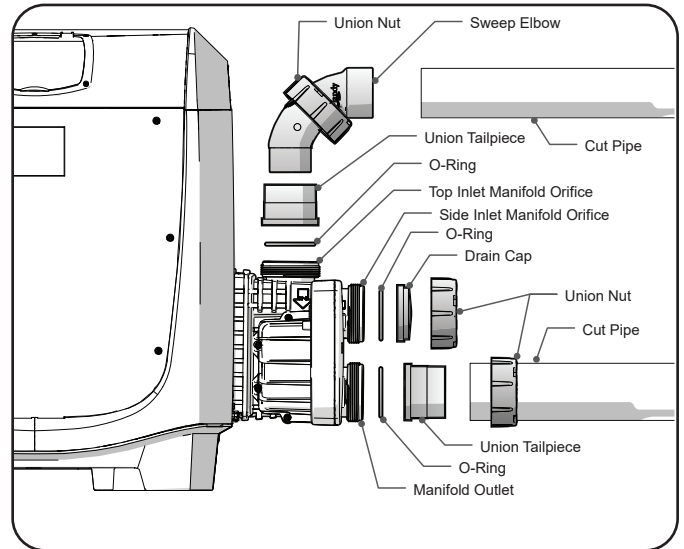

Figure 12. Inlet Piping
The top inlet is intended for use with the Versa Plumb™ sweep elbow. Plumbing in this configuration can increase hydraulic efficiency particularly when used in a system with other Versa Plumb™ compatible Equipment. See Figure 12.
- Slide the union nut onto the cut pipe length or sweep elbow. Ensure proper nut orientation with threads directed towards the heater manifold. See Figure 12.
- Install the PRV so that it is vertical. See *Figure 12*.